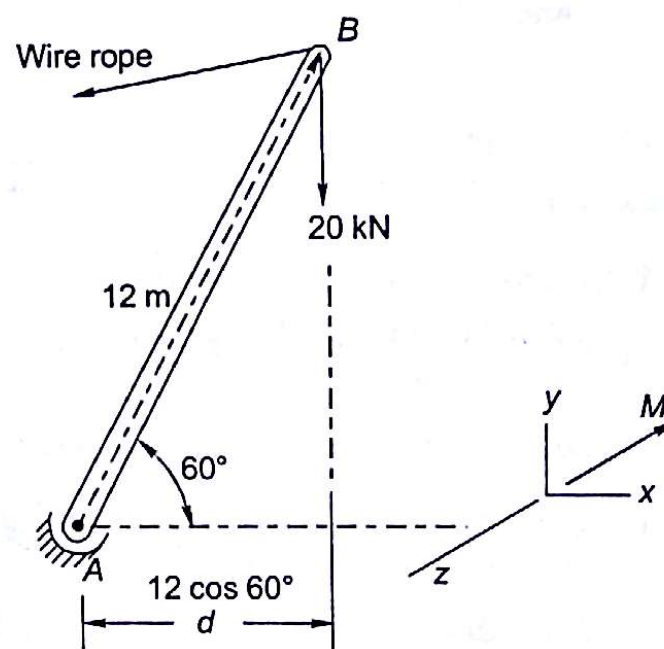

Fig. 1.28
1.3 The boom of a crane is 12 m long, it is hinged at end A. A load of 20 kN is being lifted by the crane with the help of a wire rope. What is the moment of the force about end A. Express moment as vector (Fig. 1.28)?